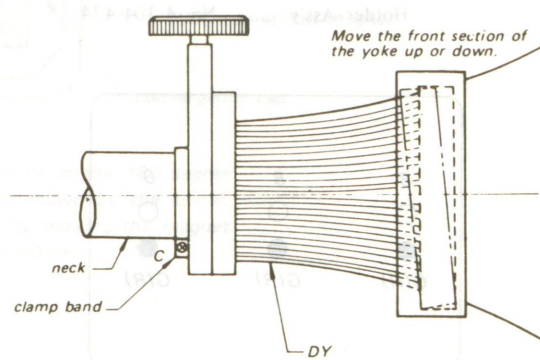

Fig. 4-17.
2. Loosen the clamp band labeled C in Fig. 4-17.